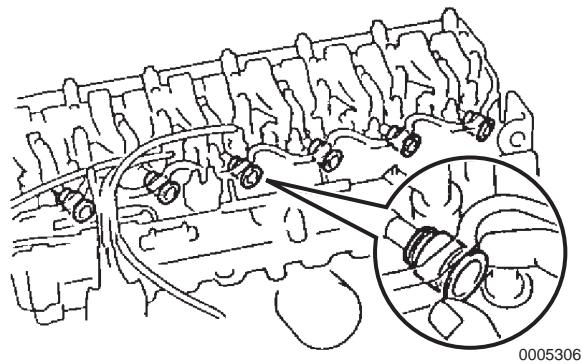

Figure 6-43
4. Install a new nozzle holder seal to the cylinder head **(Figure 6-43)**.